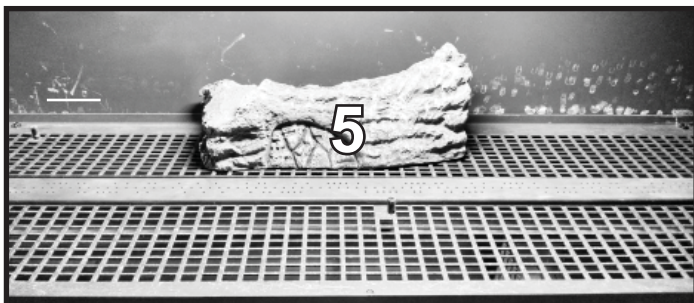

Figure 10. Log #5 (SRV2331-704)
16. **LOG #5 (SRV2331-704):** Install Log #5 onto shoulder screws #8 and #9 by lining up the holes in the bottom of the log with the shoulder screws as shown in Figure 10. Note that the properly placed log does not cover any part of the burner. If burner is covered, log is installed backwards and burner rails can not be installed properly. Turn log around to its proper position.